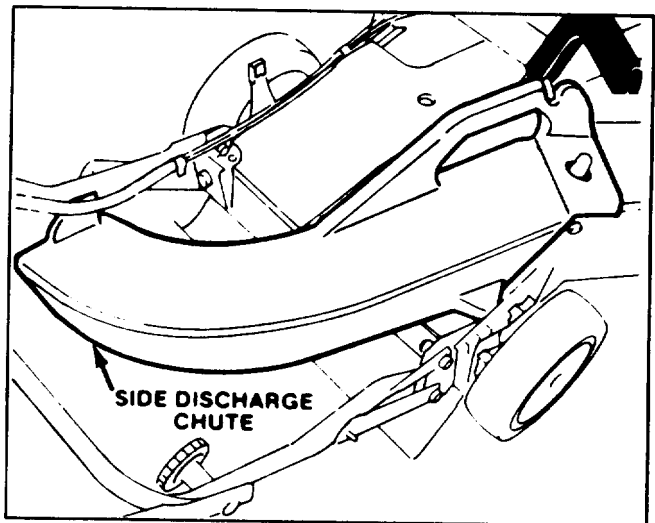

Figure 26
2. Side Discharge Kit, Model 59168—(requires Rear Bagging Kit, Model 59174). Installs in seconds. Rear mounted in place of grass bag or discharge tunnel plug. Disperses clippings while trimming on both sides (Fig. 26).